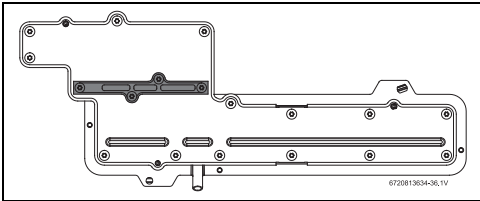

Fig. 35 Gas manifold
- The 3 restrictor plates should be pre-assembled onto their tray, but if loose in box, follow installation instruction, as shown in fig. 35 [1].
- Insert the LP conversion plate in the appropriate location shown in Fig. 35 [2].
- All three flow restrictors and seal must be assembled according to the Fig. 35, to assure correct appliance performance.